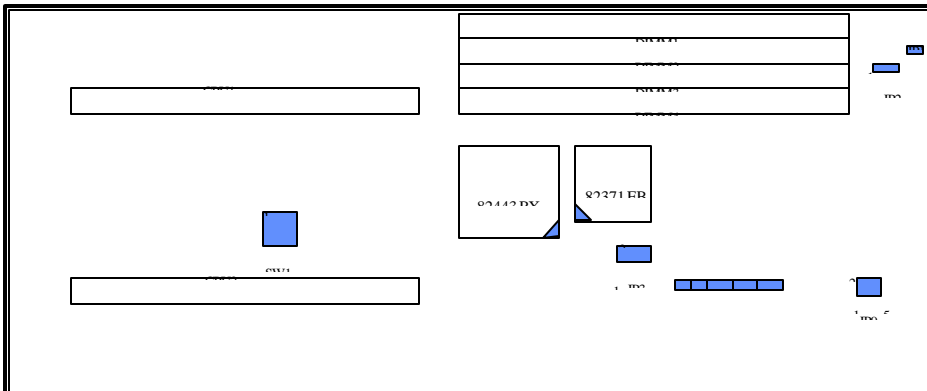

Figure 2-1 AR-B1688 Jumper
In general, jumpers on the single board computer are used to select options for certain features. Some of the jumpers are designed to be user-configurable, allowing for system enhancement. The others are for testing purpose only and should not be altered. To select any option, cover the jumper cap over (Short) or remove (NC) it from the jumper pins according to the following instructions. Here NC stands for “Not Connected”. (Please refer to Figure 2-1 for jumper positions)